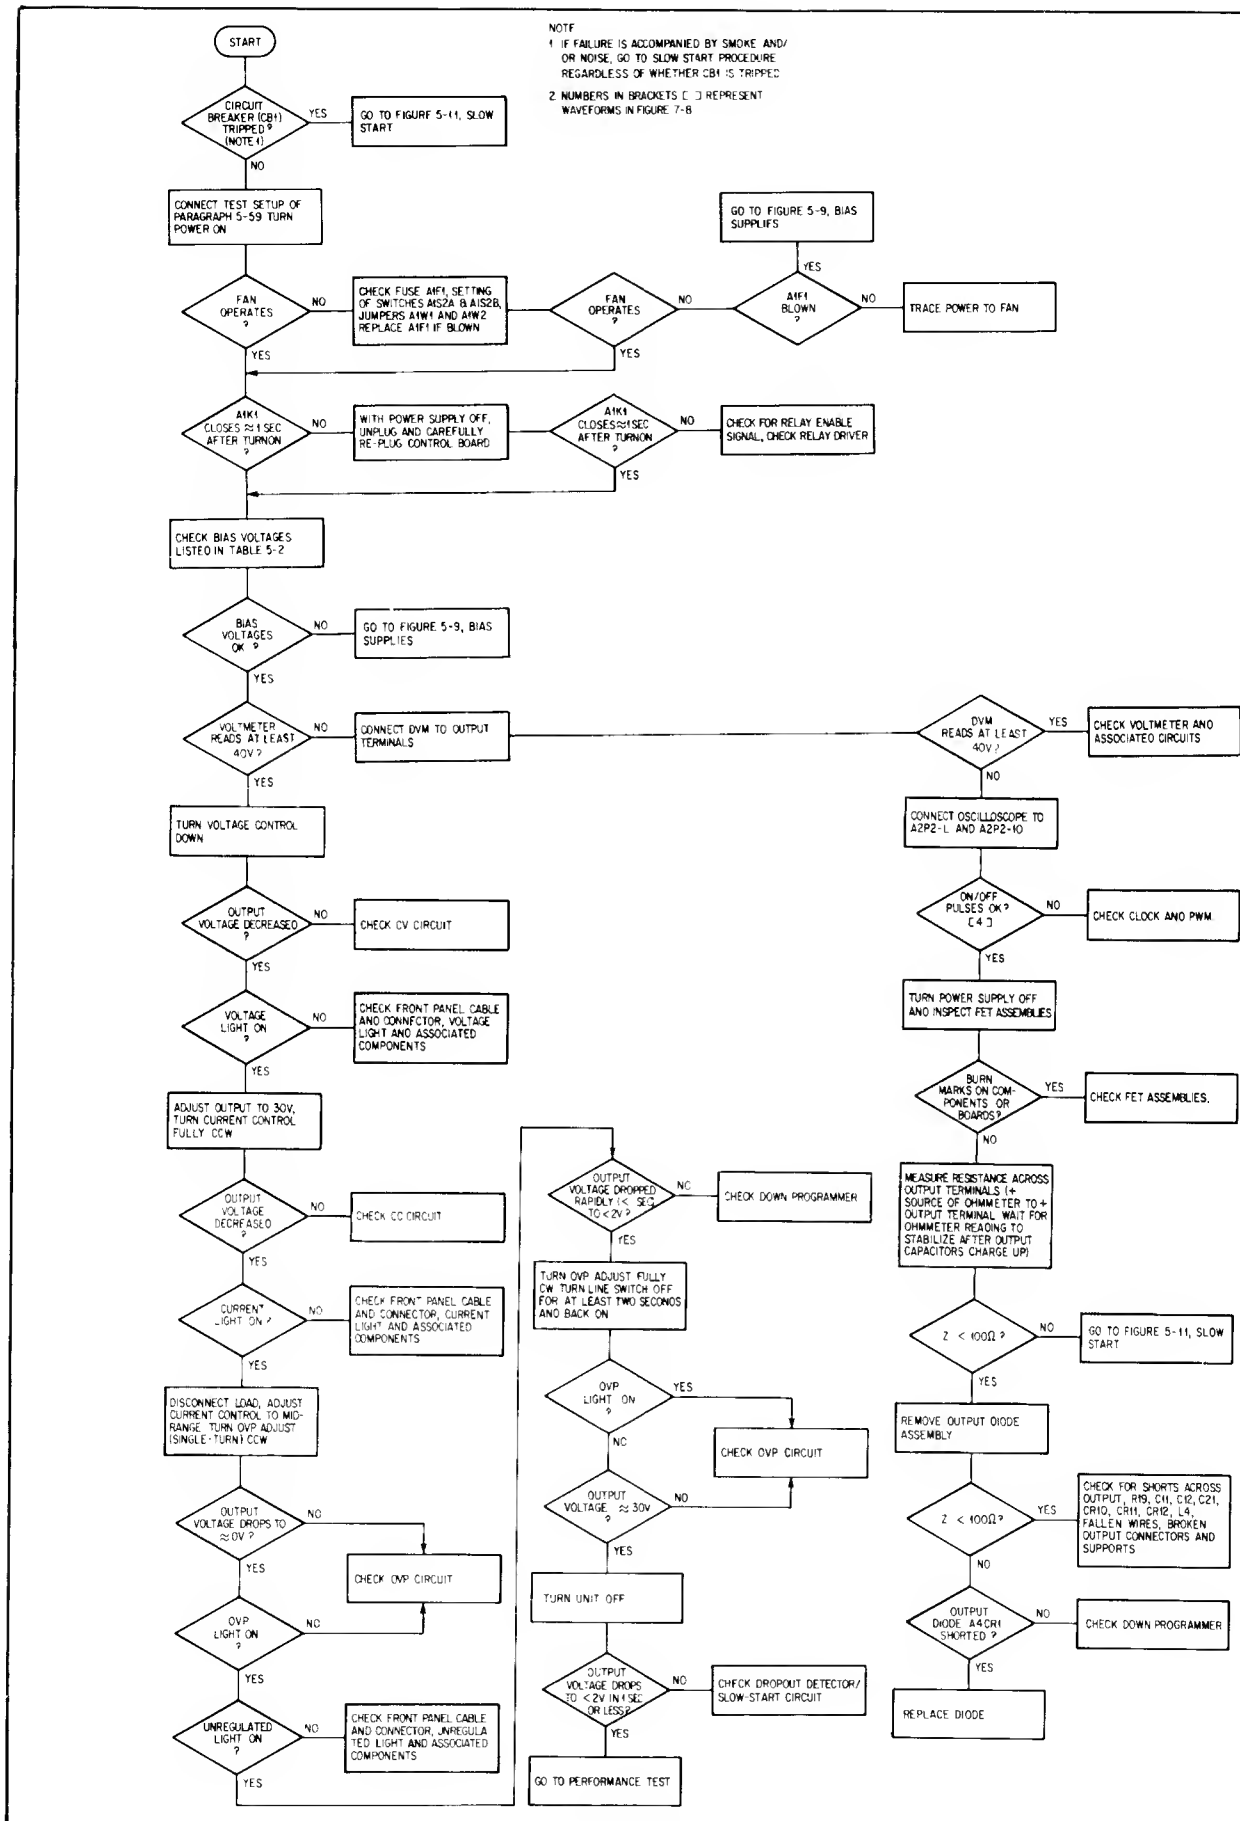
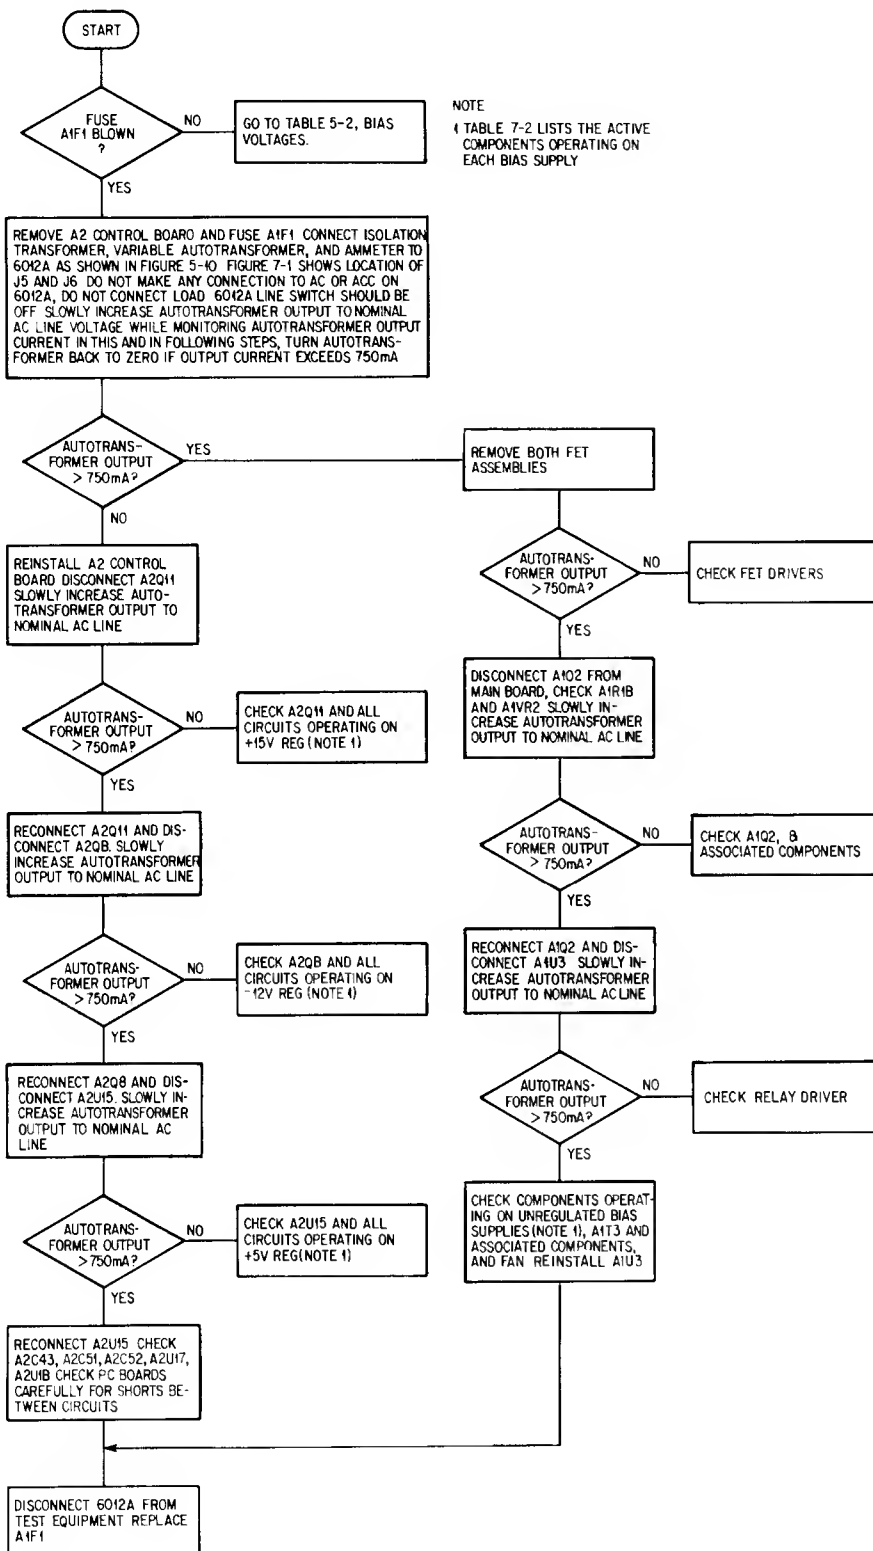
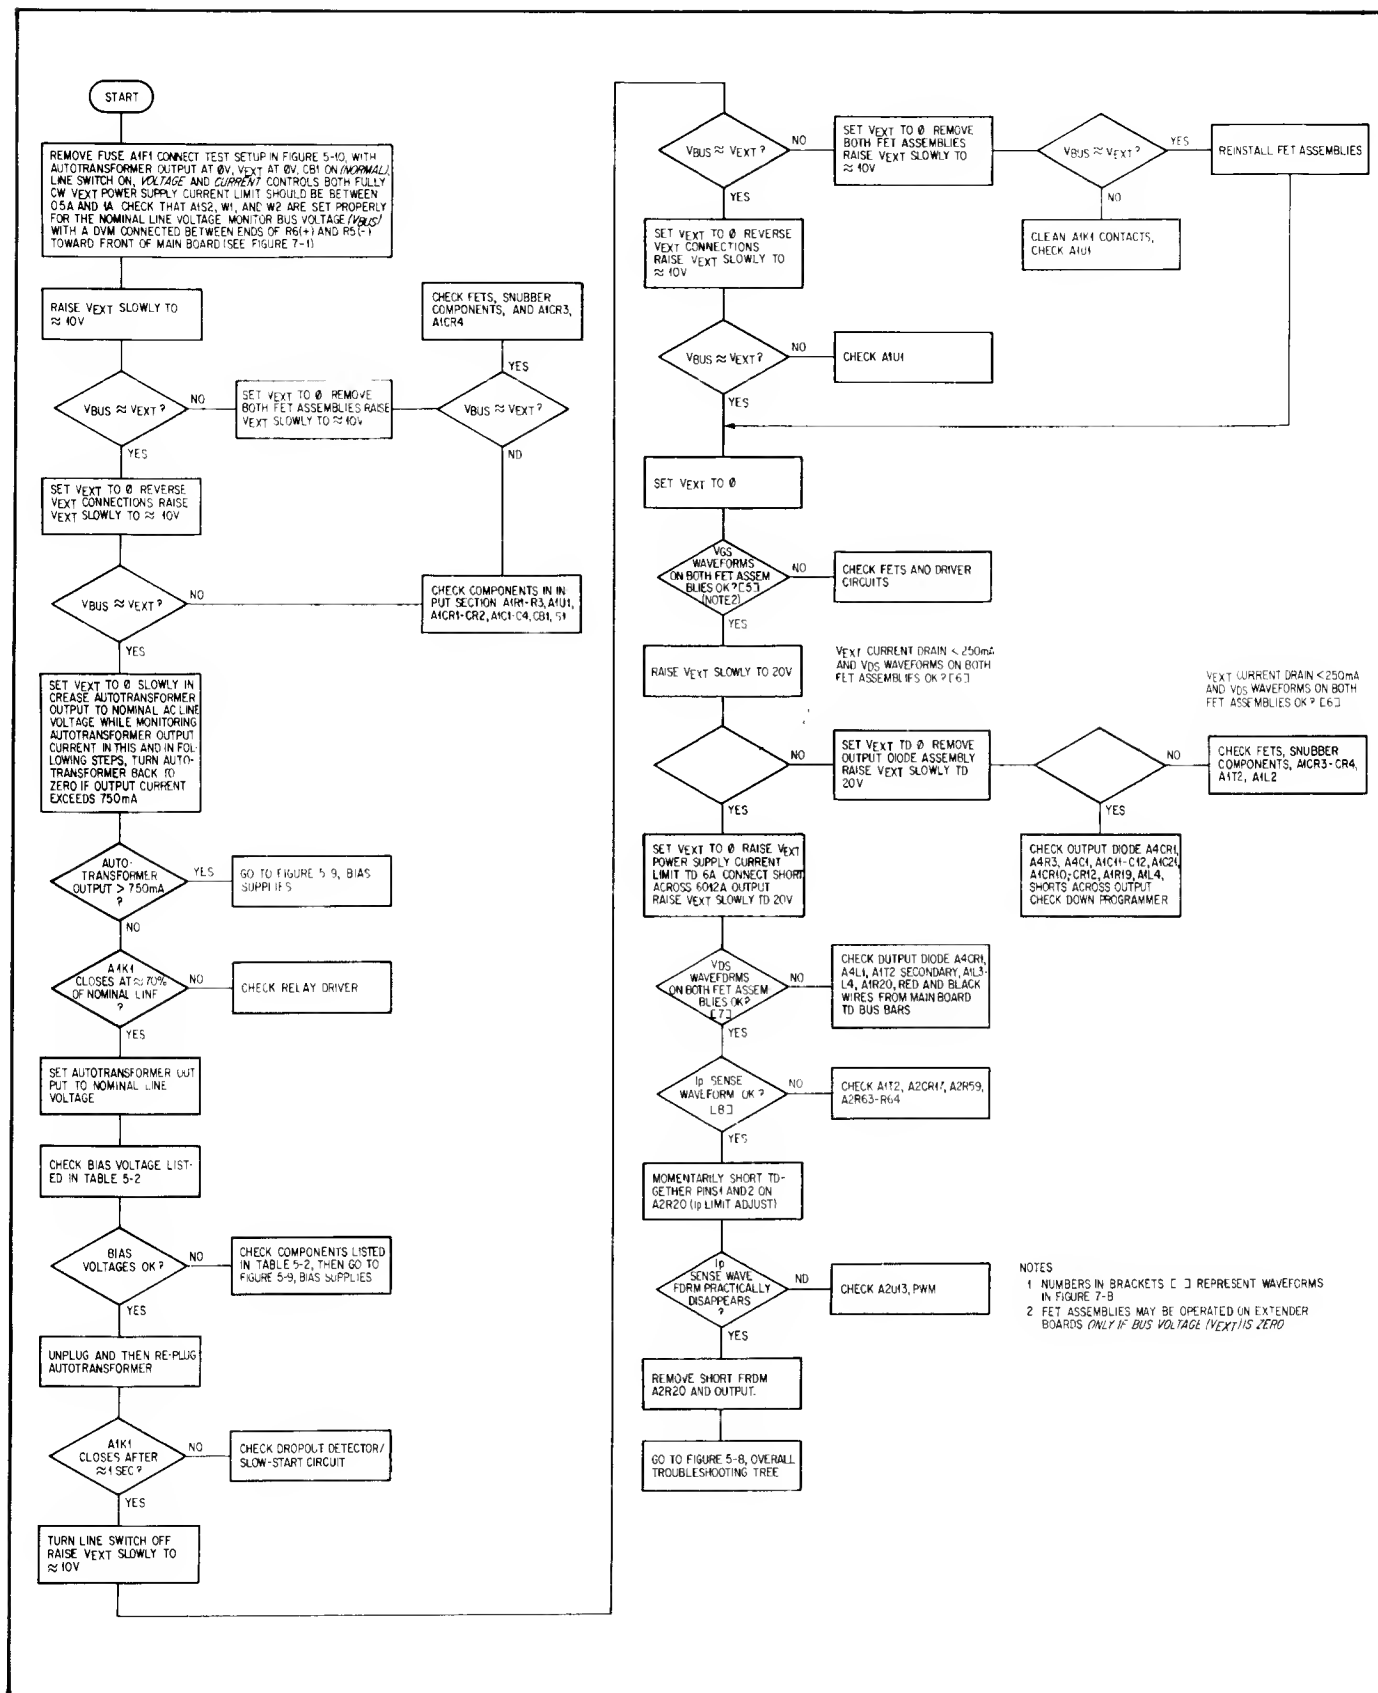

Figure 5-8. Overall Troubleshooting Tree.
Figure 5-9. Troubleshooting Bias Supplies
Figure 5-11. Slow Start Procedure
- a. Check that input power is available, and check the power cord and rear-panel circuit breaker. If breaker trips while power is on, or if breaker is found to be tripped at any time for unknown reasons, refer to Figure 5-11, Slow Start Procedure.
5-61 Once the test setup is arranged, proceed to the overall troubleshooting tree in Figure 5-8. This tree will isolate trouble to a particular circuit. Table 5-3 provides information that the user who understands the operation of the circuit as described in Section IV can use with standard troubleshooting procedures to locate the trouble.
After using the overall troubleshooting tree (Figure 5-8), bias supplies troubleshooting tree (Figure 5-9), and slow-start procedure (Figure 5-11) to isolate a fault to a particular circuit, use the following guidelines with the schematic and standard troubleshooting techniques to locate the fault.